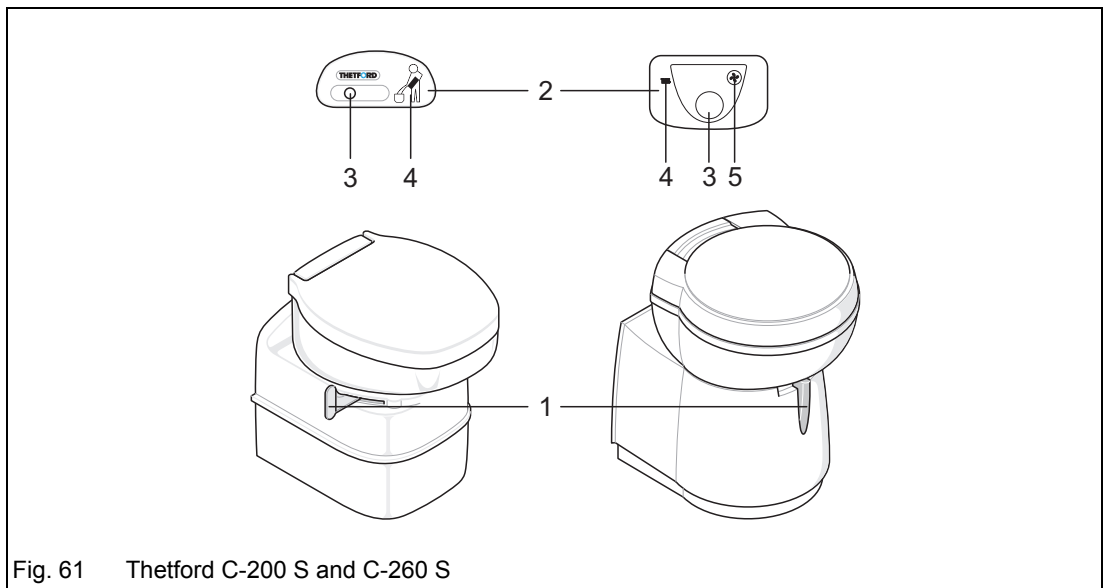

Fig. 61 Thetford C-200 S and C-260 S
- ➔ To activate the control panel, press the flush button (Fig. 61/3) once.
- ➔ Use the lever (Fig. 61/1) to open the valve blade or allow some water to run into the bowl. Press the flush button again to run water into the bowl.
- ➔ Push the lever (Fig. 61/1) to the side if the valve blade is still closed.
- ➔ Flush the toilet (Fig. 61/3) by pressing the flush button for several seconds (if necessary, reactivate the control panel (Fig. 61/2)).
- ➔ Close the valve blade with the lever (Fig. 61/1) after flushing.
The cassette (Fig. 63/1) has a capacity of approx. 17 l and should be emptied when the level indicator (Fig. 61/4) lights. Do not allow the cassette to become overfilled.
The cassette (Fig. 64/1) has a capacity of 18 l and should be emptied when the level indicator (Fig. 61/4) lights. Do not allow the cassette to become overfilled.
- Close the valve blade (Fig. 61/1) in the toilet compartment.